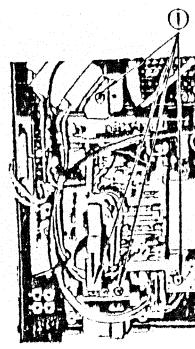

Fig. 11
2. Remove 2 screws (F) shown in Fig.11.
3. Remove a screw (H) shown in Fig.11.
2. Remove a screws (I) and 4 screws (J) shown in Fig.13 and Fig.11